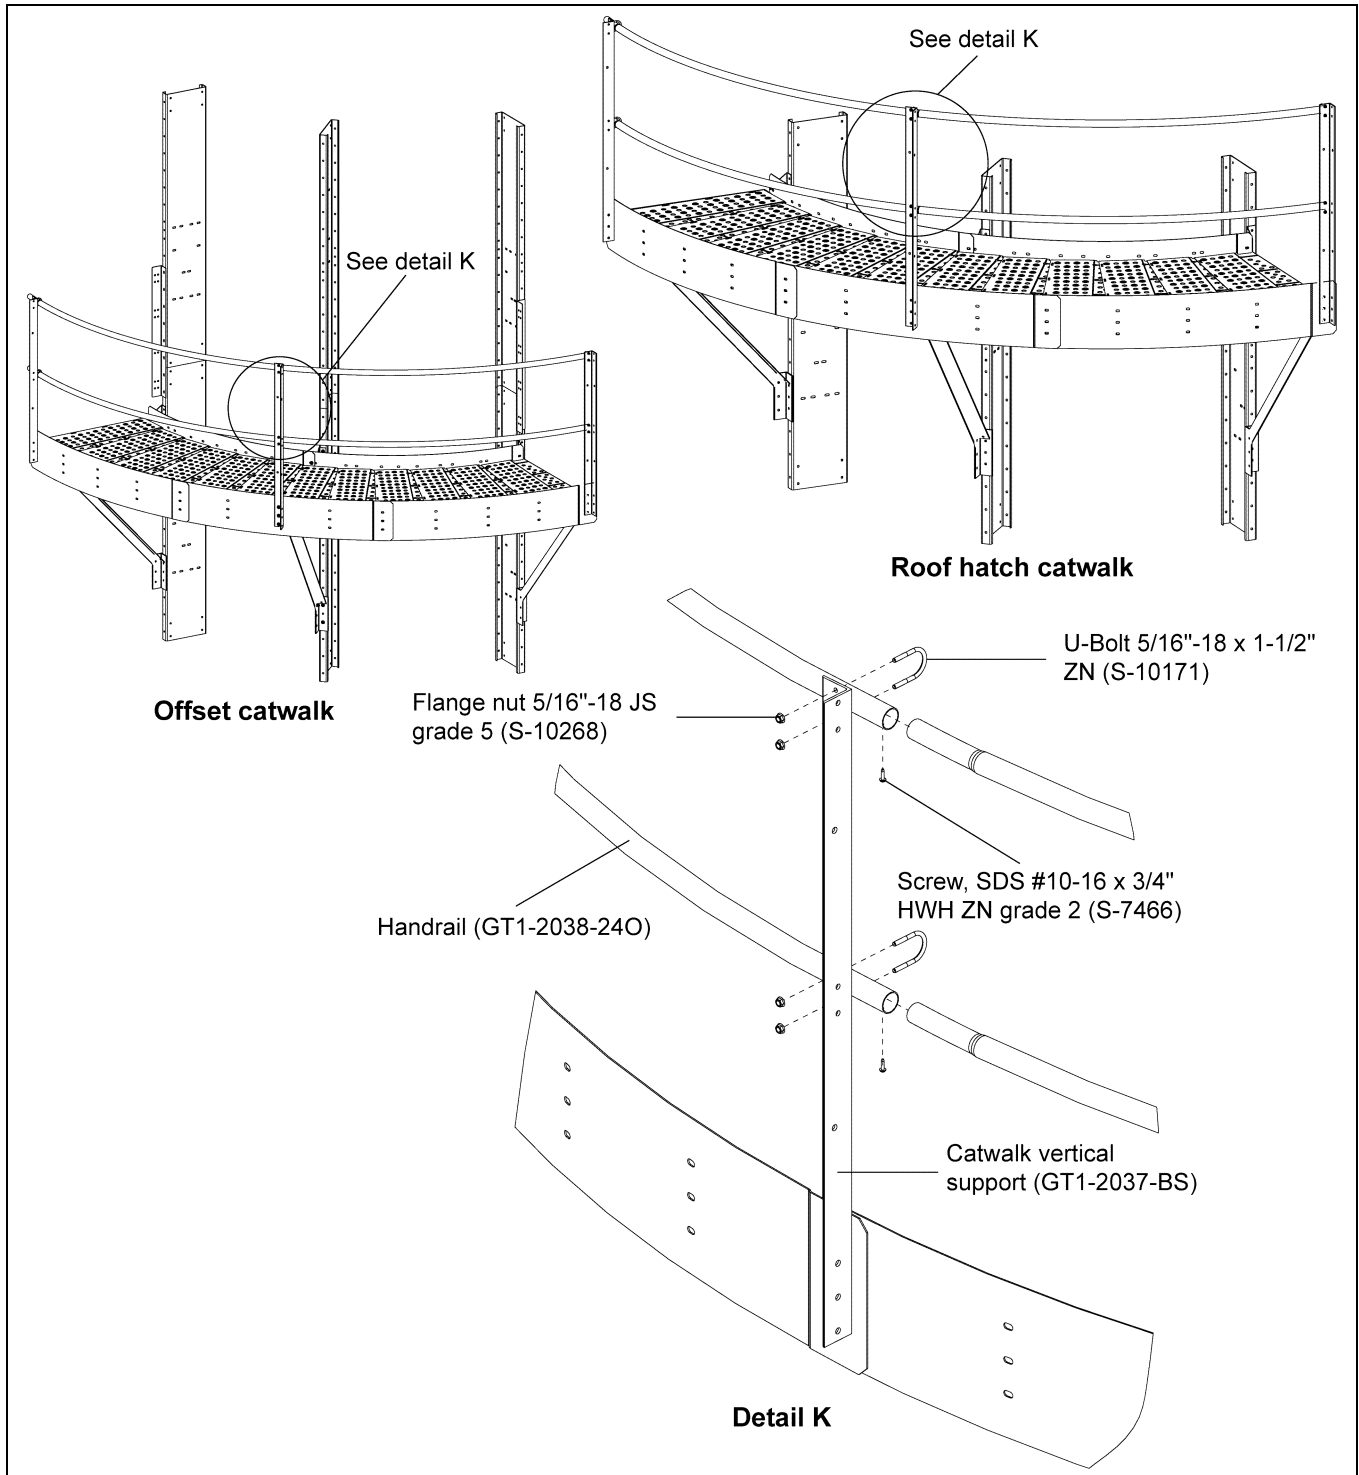

Figure 6U Handrail (GT1-2038-300) Installation for Offset and Roof Hatch Catwalks
1. Install the long handrail (GT1-2038-120) to the catwalk vertical support (GT1-2037-BS) using 5/16"-18 ZN U-bolts (S-10171) and 5/16"-18 JS grade 5 nuts (S-10268) to tighten the handrail with vertical post. (See Figure 6U.)
2. Use the self-tapping screw SDS #10-16 x 3/4" HWH ZN grade 2 (S-7466) at all handrail pipe joints. (See Figure 6U.)